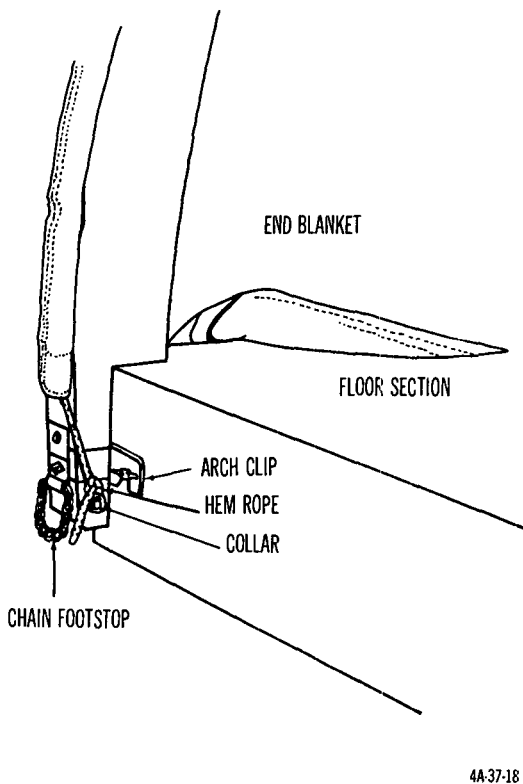

Figure 68. End blanket tied to collar (tent frame type, insulated, sectional).
- (d) Pull blanket hem rope tight, and tie hem rope ends to collars located at ends of arch and facing sides of tent floor (fig. 68).